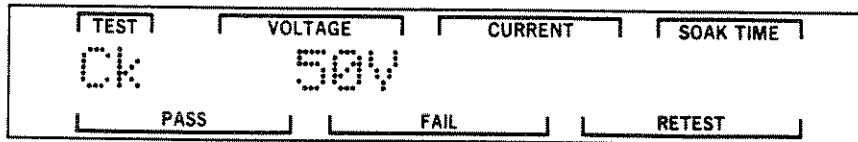

Figure 3-66. Check Voltage Screen
STEP 6. Set the Check voltage (0, 25, or 50 VDC) that will be used in normal testing. Press the UP or DOWN pushbuttons until Ck is seen at the left of the display. Press the RIGHT pushbutton once to display only the Check voltage. Press the INC or DEC pushbutton to set the desired voltage. Refer to Figure 3-66 for an example of this screen.